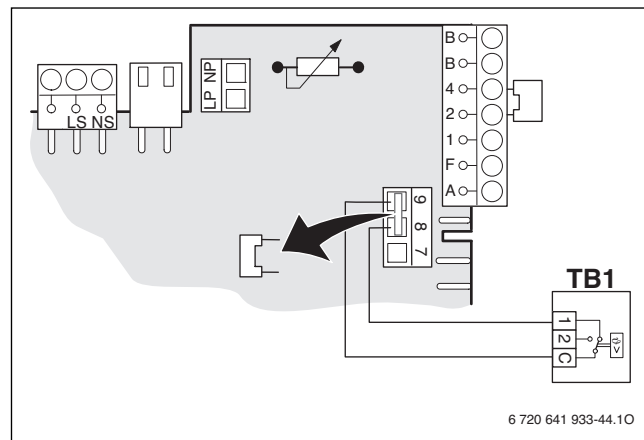

Fig. 39 Electrical wiring TB 1
- Connect the leads labeled SWITCH CONTACT (yellow) to the TB1 temperature switch (→ Fig. 39, page 33) on the Heatronic.